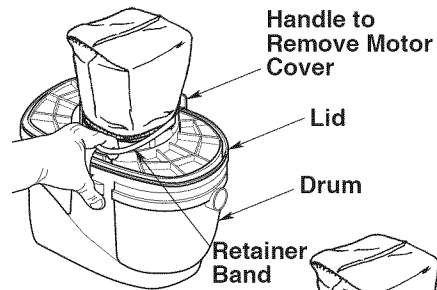

FIGURE 1
1. Extend the retainer band around the plastic posts on the lid (See Figure 1 and 2).